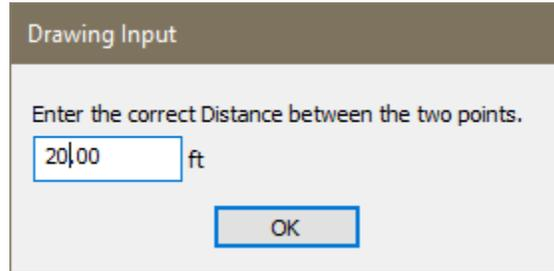

Figure 2-21
- In the **Message Bar** click the *Enter* button to open the Drawing Input window shown in **FIGURE 2-21**.